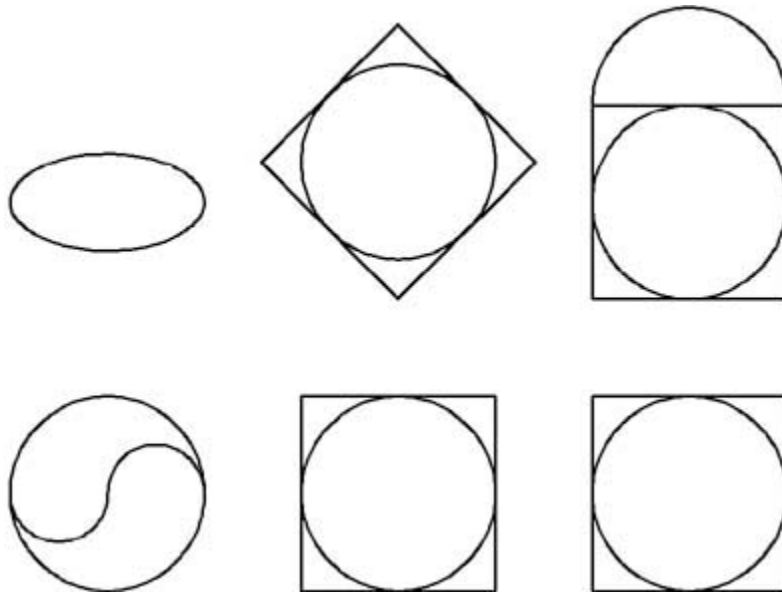

Figure 4-27
- 6** Drag the mouse around to see how the shape of the ellipse changes as you move it. Pick a point 0.5 inch above the center point to create the ellipse. Your drawing should look like Figure 4-27.